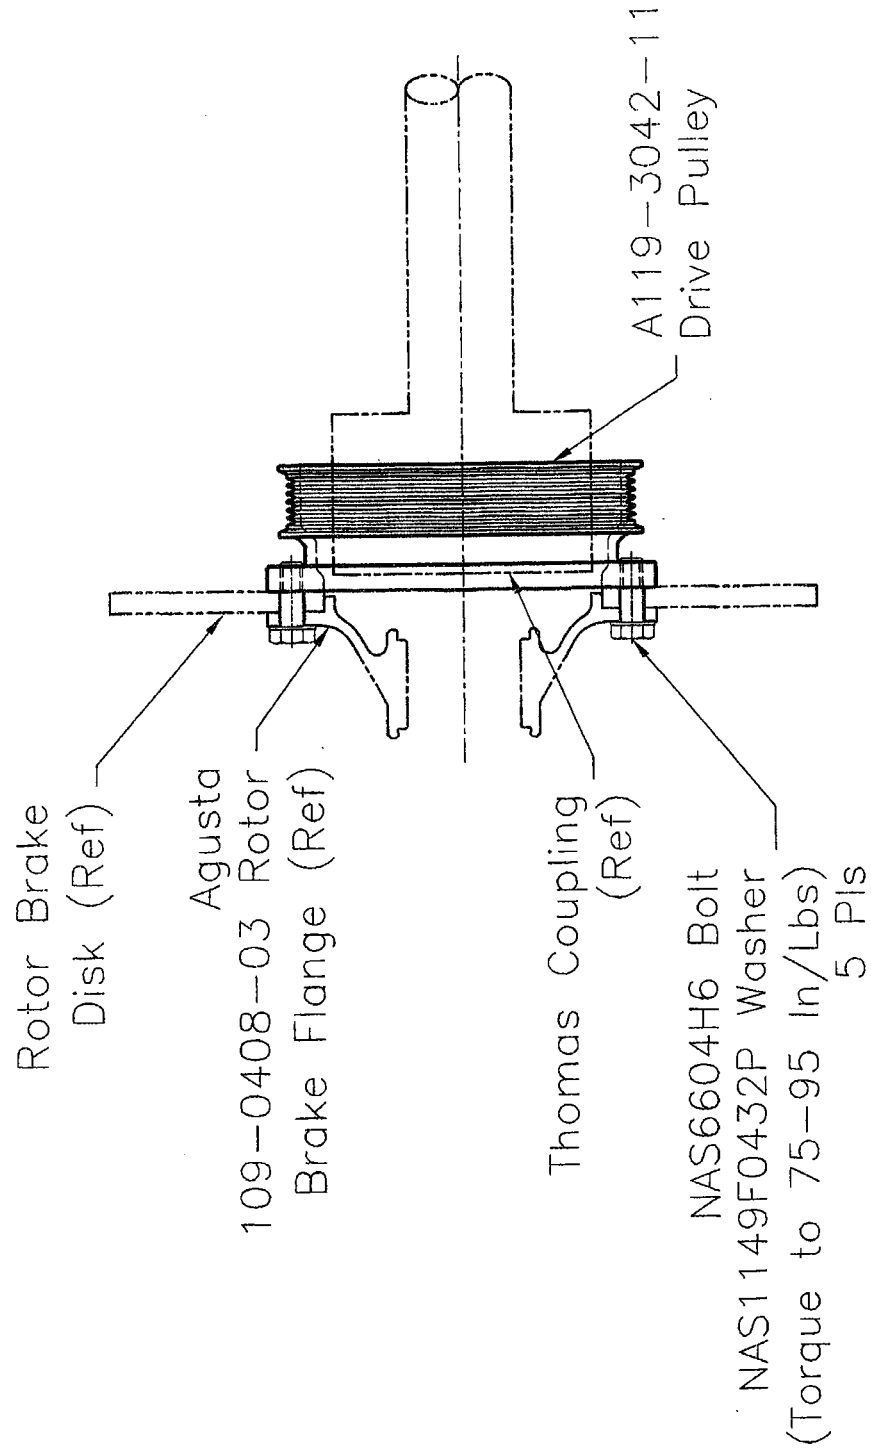

Figure 1.2
1. Install new A119-3042-11 Drive Pulley, NAS6604H6 Bolts, and ES35119-1 Belt on the oil cooler driveshaft / rotor break disc assembly. Torque bolts 75 to 95 in-lbs. Safety wire using .032 safety wire. (Figure 1.2)